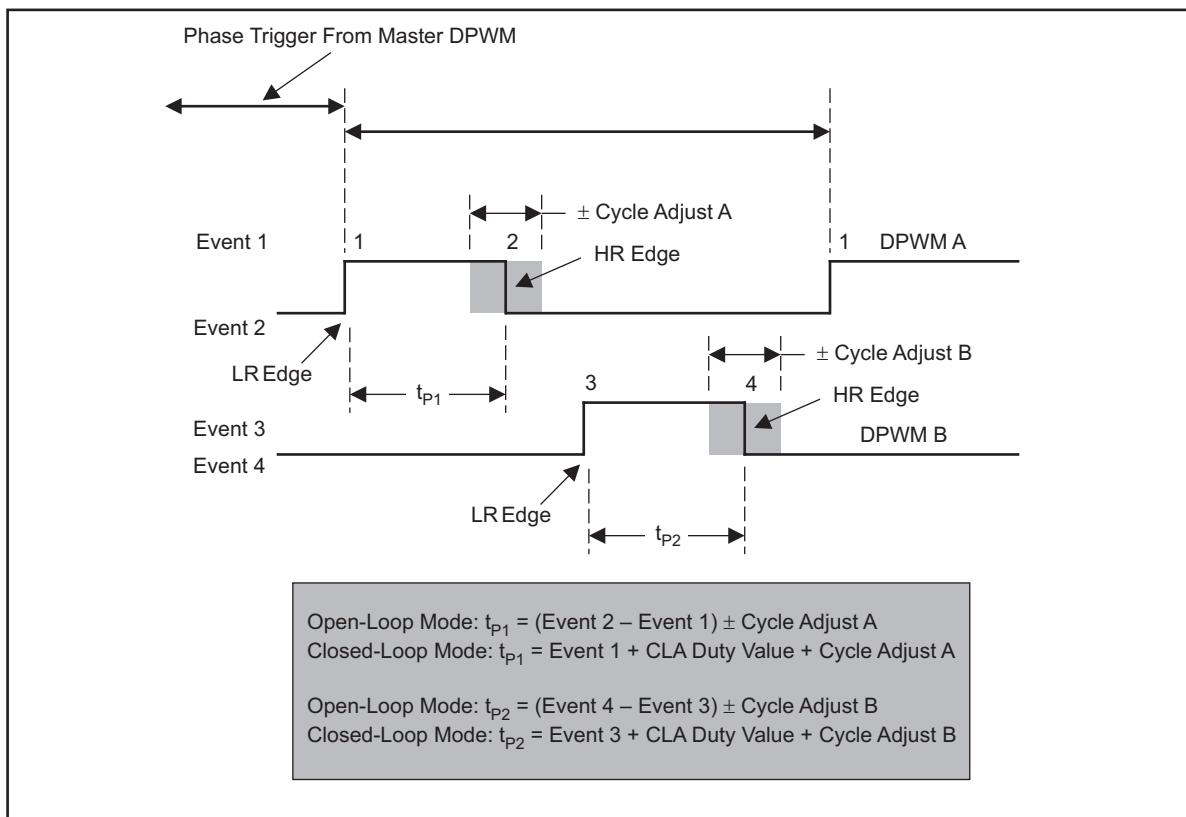

Figure 11. Multi-Output Mode – DPWM Timing Diagram
- While applying a –ve cycle adjust to DPWM B, the minimum on-pulse width (calculated value of t_{P2} in Figure 11) should be limited to 0. A –ve value for the DPWM B on-pulse width is not valid.